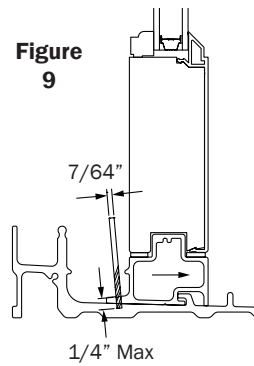

Figure 9
- Pre-drill 2 holes 2" from end of stationary filler O.C. using a 7/64" drill bit to a maximum depth of 1/4" and line up bit with screw hole scribe (Fig. 9). **DO NOT PENETRATE THROUGH SILL.**